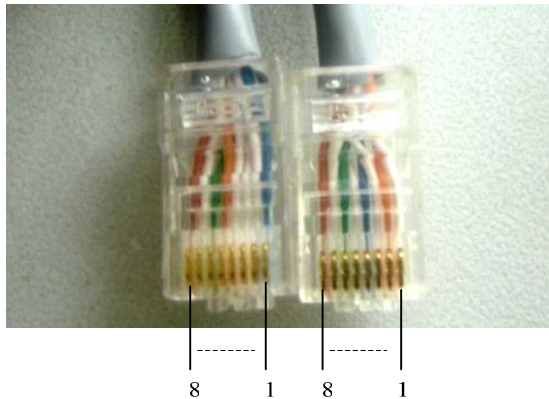

Figure 8: 120Ω RJ45
- Make 120Ω E1 cable. If you use 120Ω interface, take out RJ45 plug, and fix it on twister-pair cable (Figure 8). **Table 1** is the detailed definition of 120Ω connector.